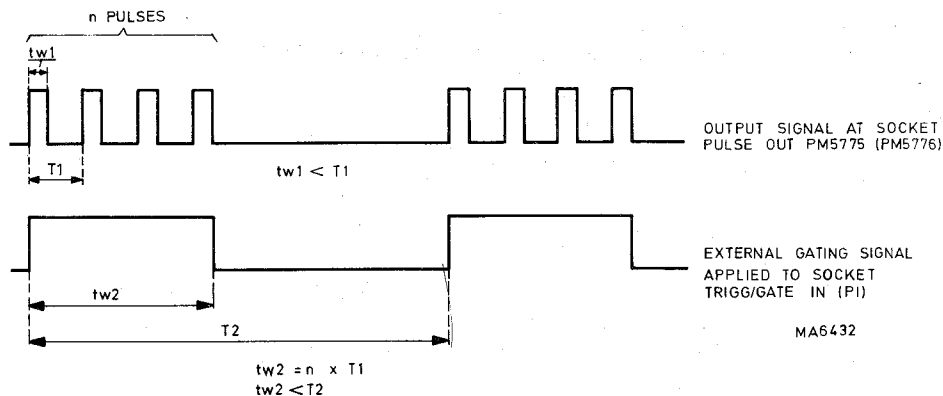

Fig. VI-7. Time settings at gated-pulse operation
In position CONT., the internal multivibrator is in operation. The GATED mode is used for internal operation, externally gated. A gating signal applied to input TRIGG/GATE IN, P1, will control the output so that burst pulses are obtained. The length of each burst is determined by the gate pulse width. The correct relationship between the pulse-width and repetition time of the PM 5775 (PM 5776) and those of the external pulse source are shown in Figure VI-7.
- Figure VI-7 illustrates the correct relationship between the time settings of the PM 5775 (PM 5776) and the external pulse source.